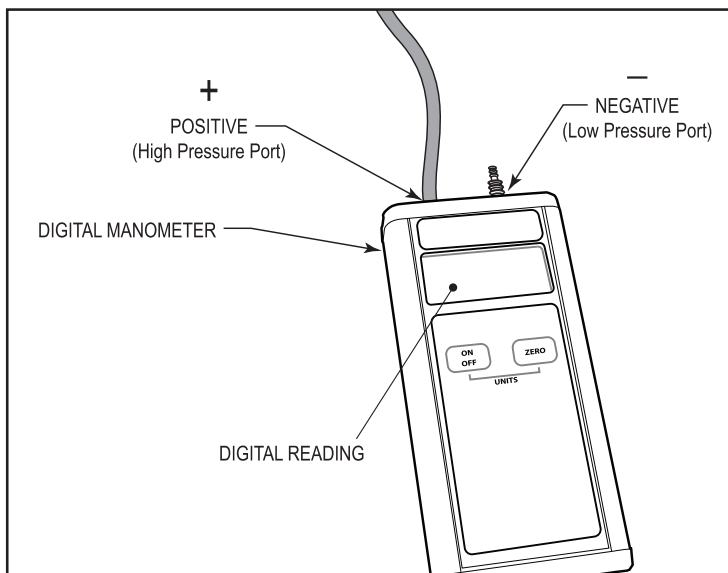

Figure 18. Test the Gas Inlet Pressure
7. The manometer has a positive (high pressure) port and a negative (low pressure) port. Connect the other end of the hose to the positive (high pressure) side of the manometer (Figure 18).